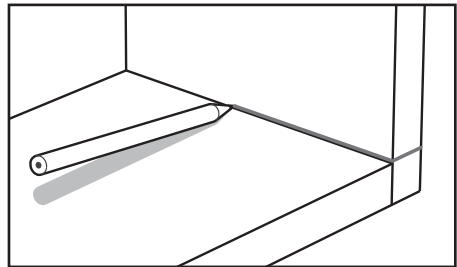

Figure 8: Marking the depth of the dovetails.
5. Mark out the depth of the dovetails around all the faces of each board as shown in **Figure 8**. Note that it is desirable to angle your pencil so the line is slightly higher than the horizontal board (about $1/64''$ to $1/32''$). This offset will ensure the pins and tails are a little long, leaving a sanding allowance. This extra depth adds a built-in clearance for the glue.